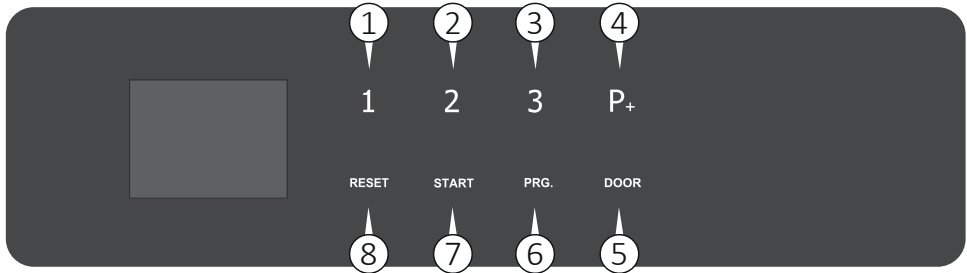

Fig. 13
To select the programs available, use key 1, 2 or 3 (see Fig. 13) depending on the most suitable program for the level of dirt of the load.
- Open the door (key 5 Fig. 13) to introduce the racks.
- Close the door and push it until the lock is activated. The door can be unlocked and opened at any time before the program starts, by pressing the DOOR key (5 Fig. 13).
To select the programs available, use key 1, 2, 3 or the key P+ (to select programs from 4 to 40) on the control panel (Fig. 13).
To start a program, press the START key (7 Fig. 13).
The message «Finish» with a green background on the display indicates that the program has been carried out correctly. Unlock the door by pressing the DOOR key (5 Fig. 13) and open it.
- 2) With the machine started and door closed, the screen for selecting the programs will appear. Press the selected key (1 or 2 or 3 Fig. 13) on the control panel. To access subsequent programs (if stored), press the key «P+» several times.
- 4) Optional: enter the user password: use the key 1, 2, 3, RESET, START and PRG on the control panel to digit the correct password (See Fig. 13 for key description).